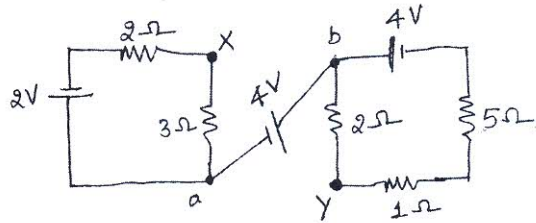

Fig. Q1(b)
b. For the circuit shown in Fig. Q1(b), Obtain voltage between points X and Y. (06 Marks)